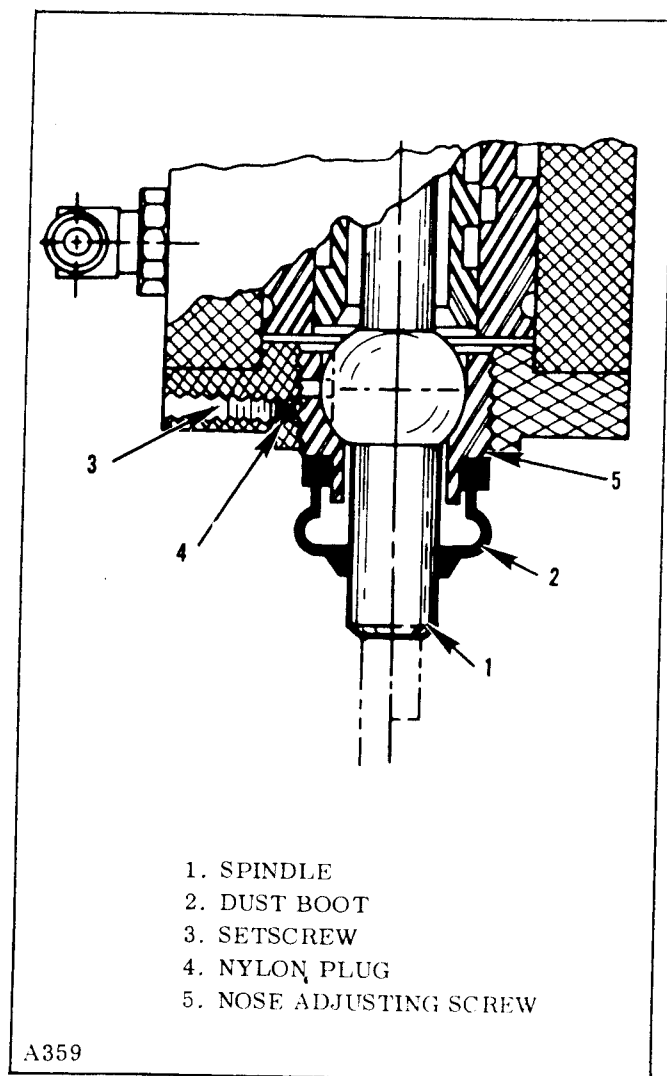

Figure 3-22. Location of Adjusting Screw in Tracer Valve
c. Remove the dust boot from the nose of the tracer valve (see figure 3-22.)
d. Loosen the setscrew (3) approximately two full turns using a 3/32 Allen wrench. (Do not remove the setscrew.)
e. Rotate the nose adjusting screw (5) counter-clockwise (looking at the nose end of the tracer valve) to increase the feed rate in toward the template. Turn the adjusting screw clockwise to decrease the feed rate.